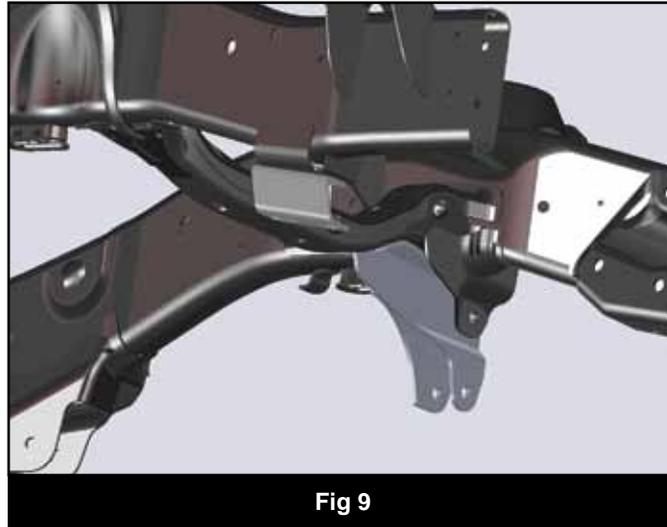

Fig 9
31. Remove the sway bar from the frame rails (note orientation of sway bar). Loosely install the sway bar drop brackets with the factory hardware to the frame. The brackets will offset the sway bar slightly forward. Attach the sway bar to the relocation brackets with 3/8" x 1-1/4" hardware from BP # 422. (Fig. 9)